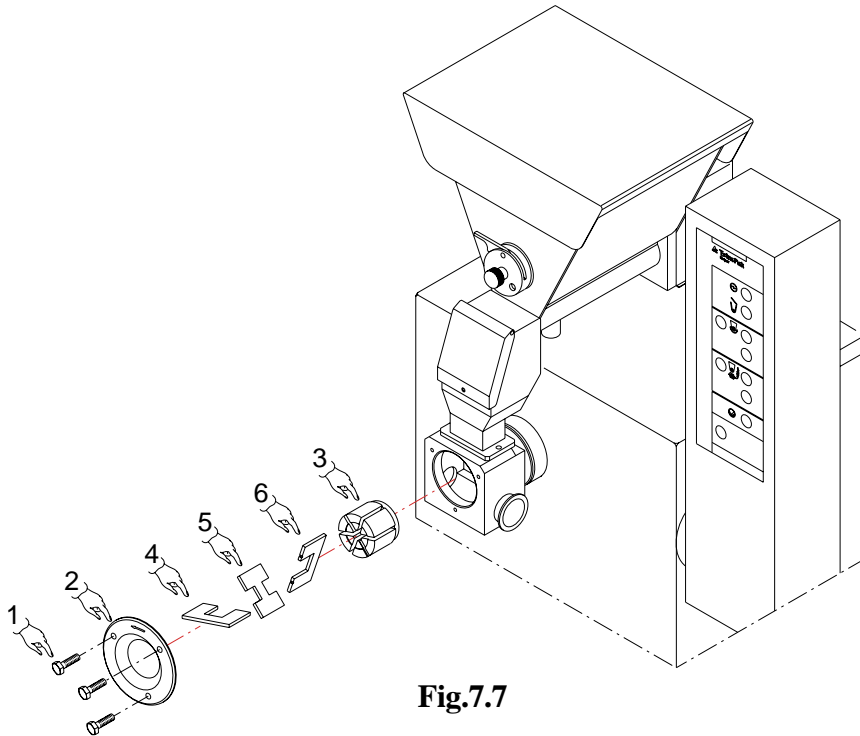

Fig.7.7
If the pump is noisy or gets blocked during operation, unscrew the screw (*Part.1, Fig.7.7*) and the front pump cover (*Part.2, Fig.7.7*) then take out the vanes (*Part.4-5-6, Fig.7.7*) and the rotor (*Part.3, Fig.7.7*).
- first insert the vane (*Part.6, Fig.7.7*) marked with two notches,
- insert the vane (*Part.5, Fig.7.7*),
- insert the vane (*Part.4, Fig.7.7*).